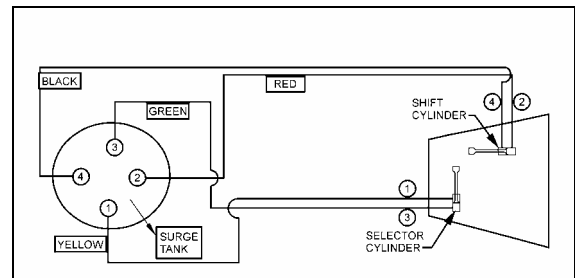

FIGURE 14: HYDRAULIC SYSTEM SCHEMATIC
6. Move the shift lever to the extreme left to fill circuit 3 (fig. 14). Maintain lever in this position until there are no more air bubbles mixed with the oil entering the overflow tank;
7. Move the shift lever to the extreme right to fill circuit 1 (fig. 14). Maintain lever in this position until there are no more air bubbles mixed with the oil entering the overflow tank;
12. Move the shift lever to the extreme forward position to fill circuit 2 (fig. 14). Maintain lever in this position until there are no more air bubbles mixed with the oil entering the overflow tank;
13. Move the shift lever to the extreme rear position to fill circuit 4 (fig. 14). Maintain lever in this position until there are no more air bubbles mixed with the oil entering the overflow tank;
15. Close both the quick connect and the plug on the shift cylinder (fig. 14);